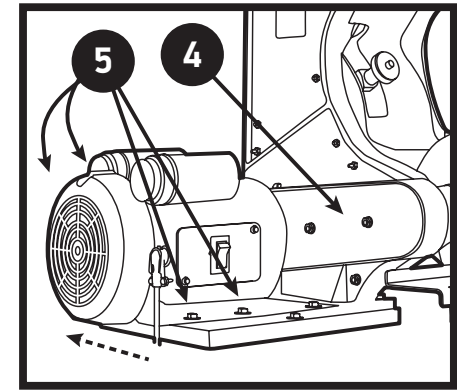

Figure 10
- + Every thirty days check the v-belt tension. If you can hear the belt “slap” the V-belt Guard (Item 4, page 5) when the drive motor starts, the v-belt requires re-tensioning. Do this by loosening the four bolts (Figure 10) that secure the motor to the machine base and slide the motor toward the rear of the machine. Tighten the four bolts.